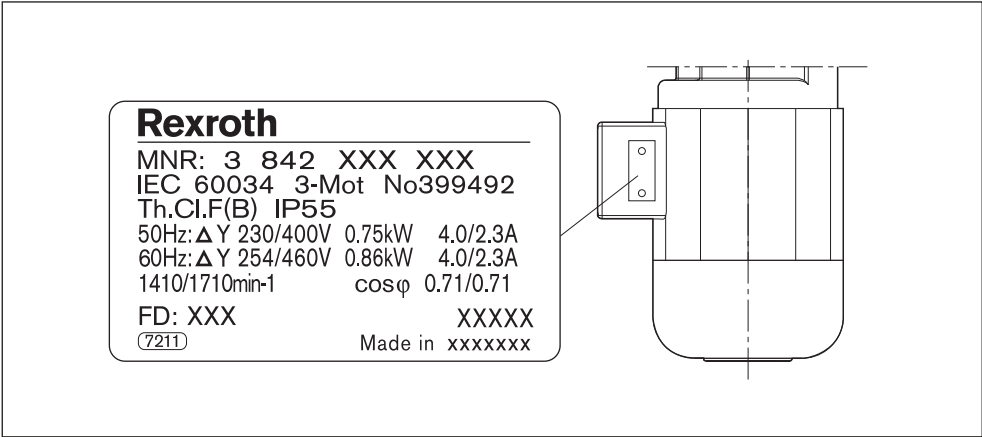

Fig. 8: Motor nameplate (example)
- Take account of the electrical power requirement shown on the motor nameplate, see Fig. 8 on page 22.